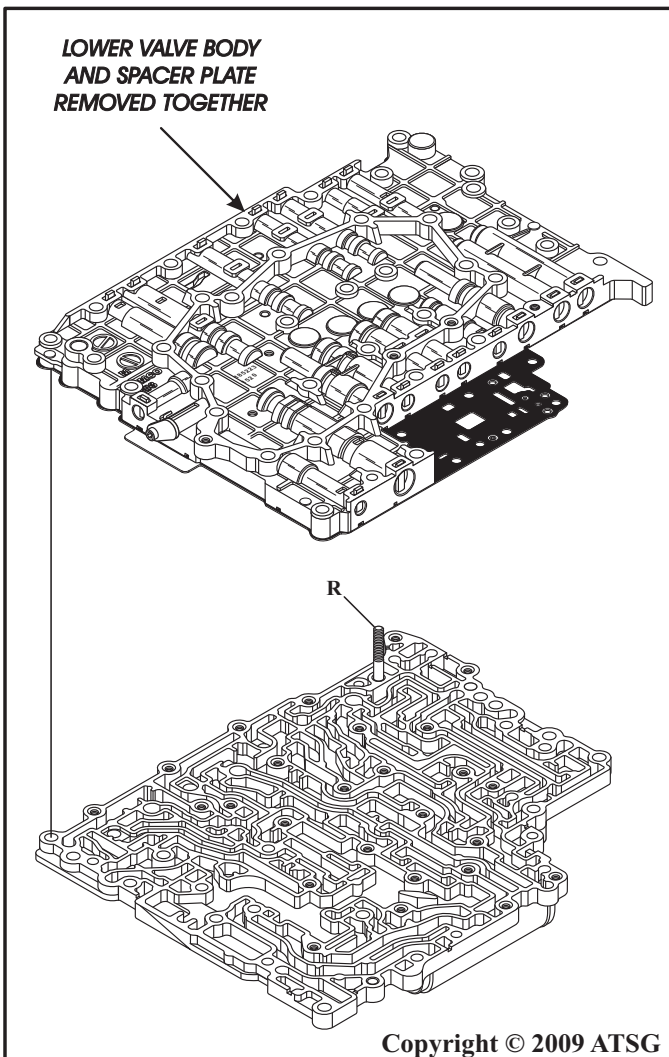

Figure 170
20. Remove the lower valve body and spacer plate together off of the remaining bolt and upper valve body, as shown in Figure 170.